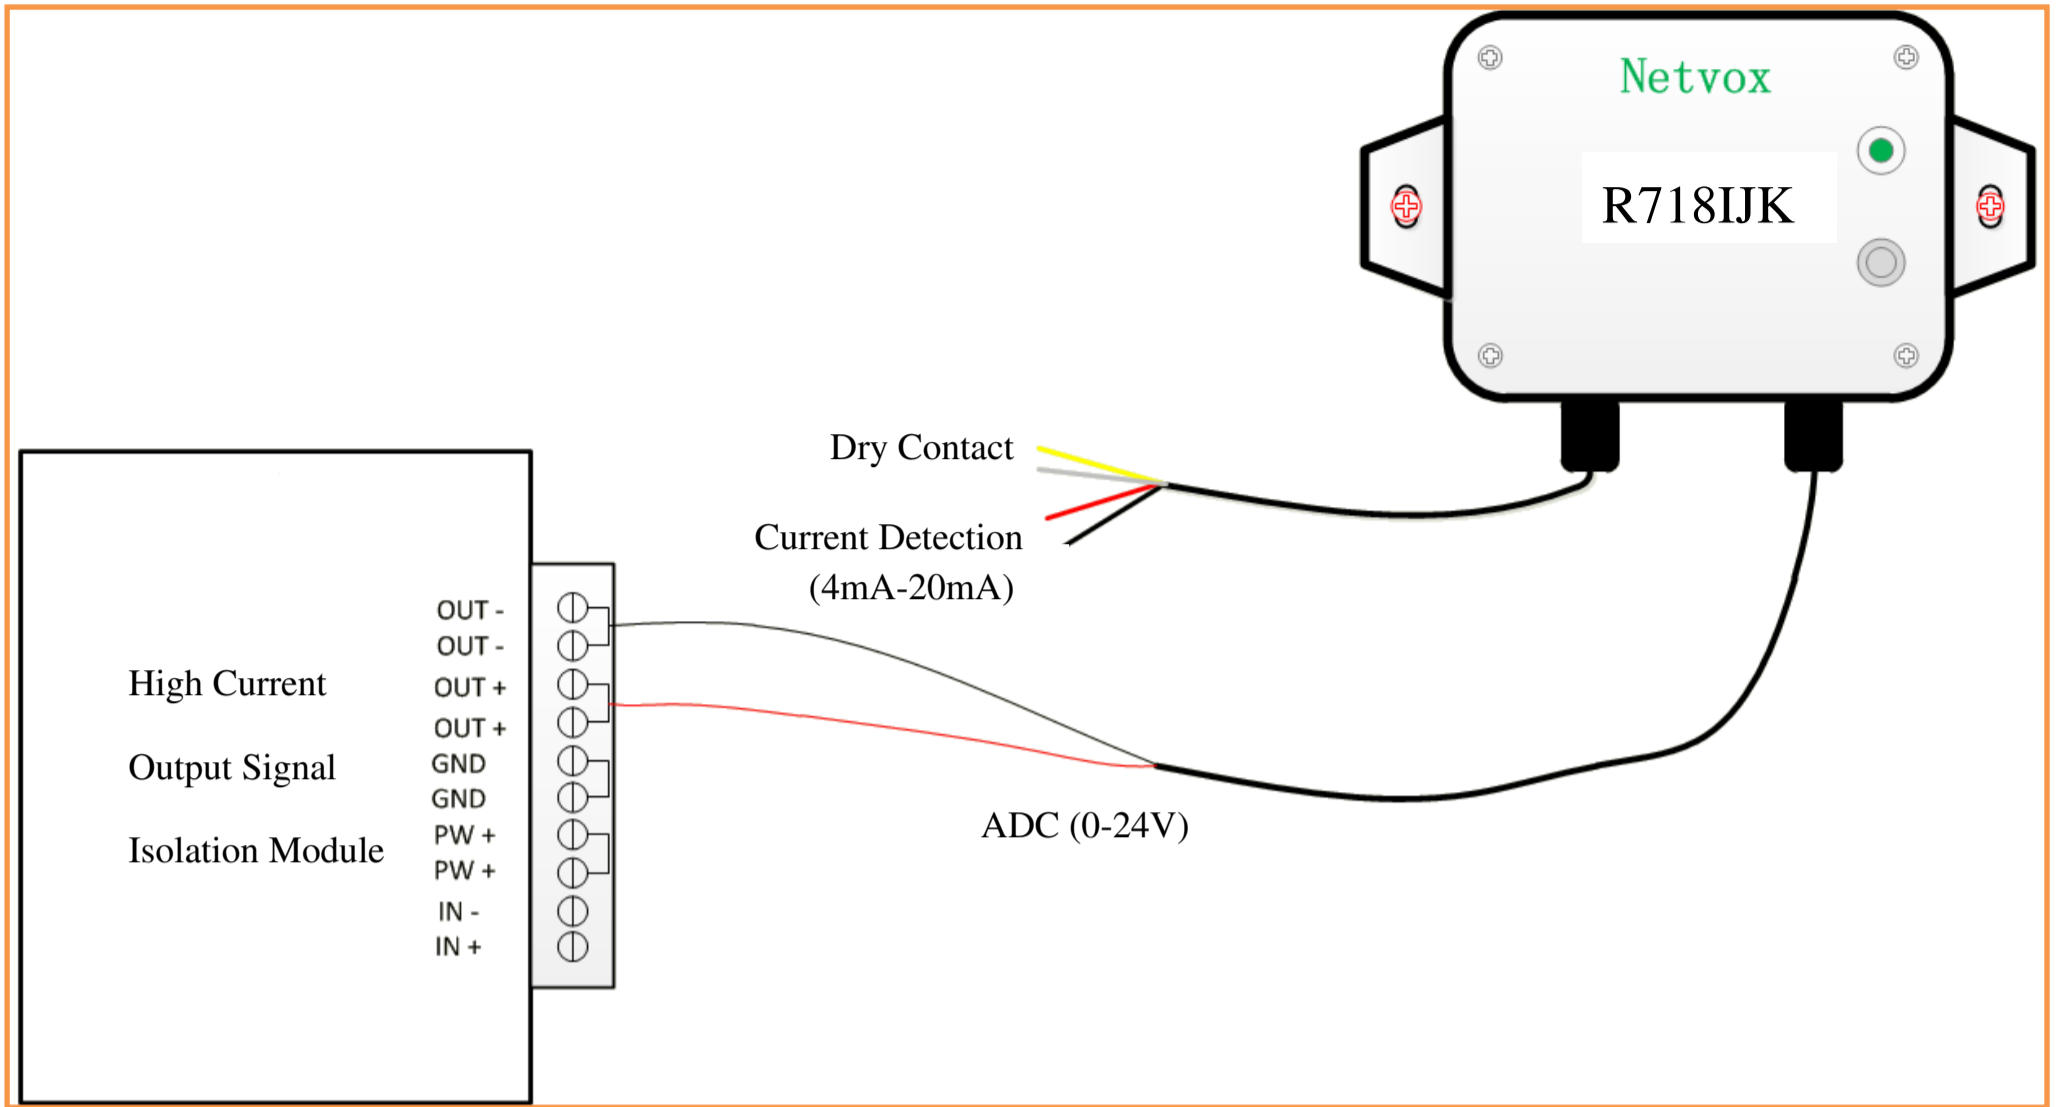
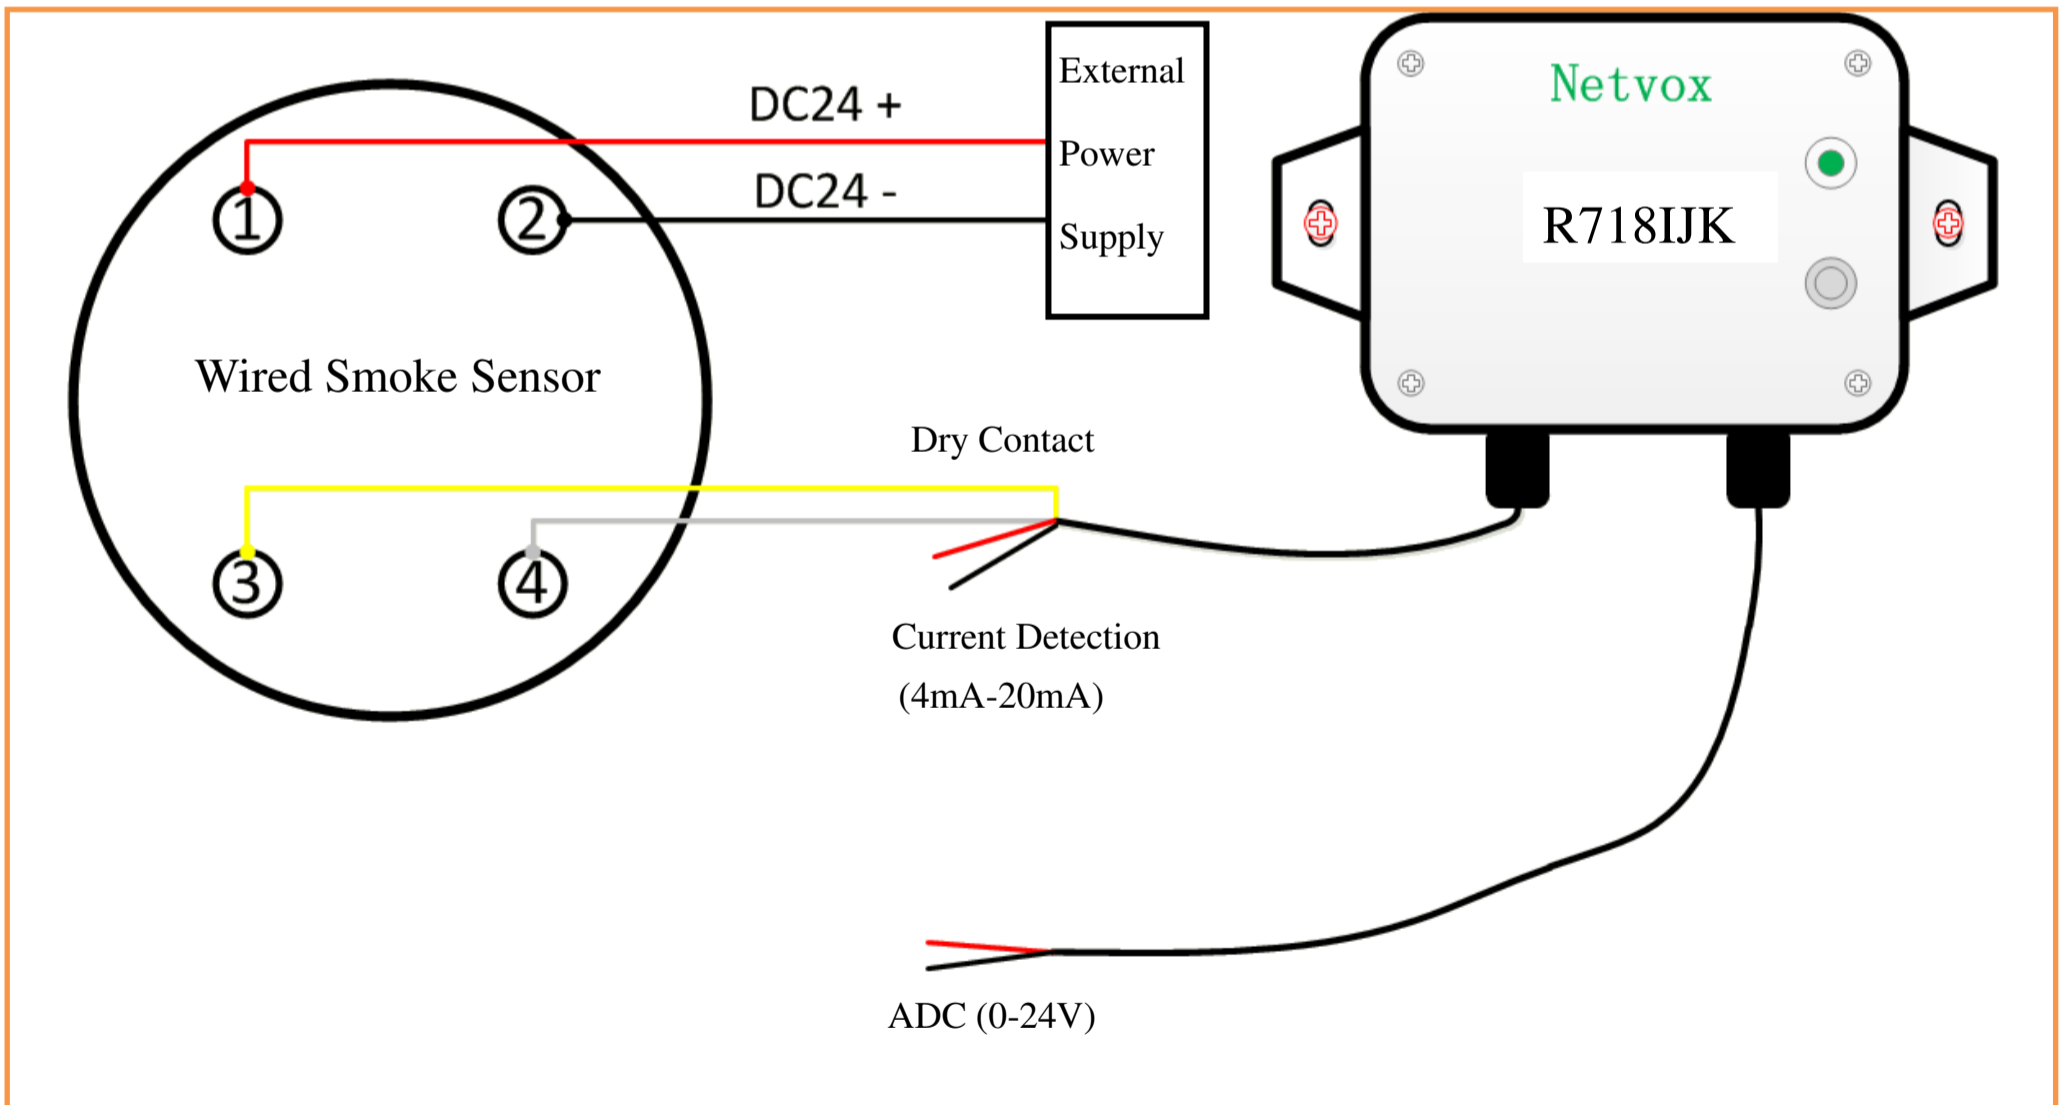
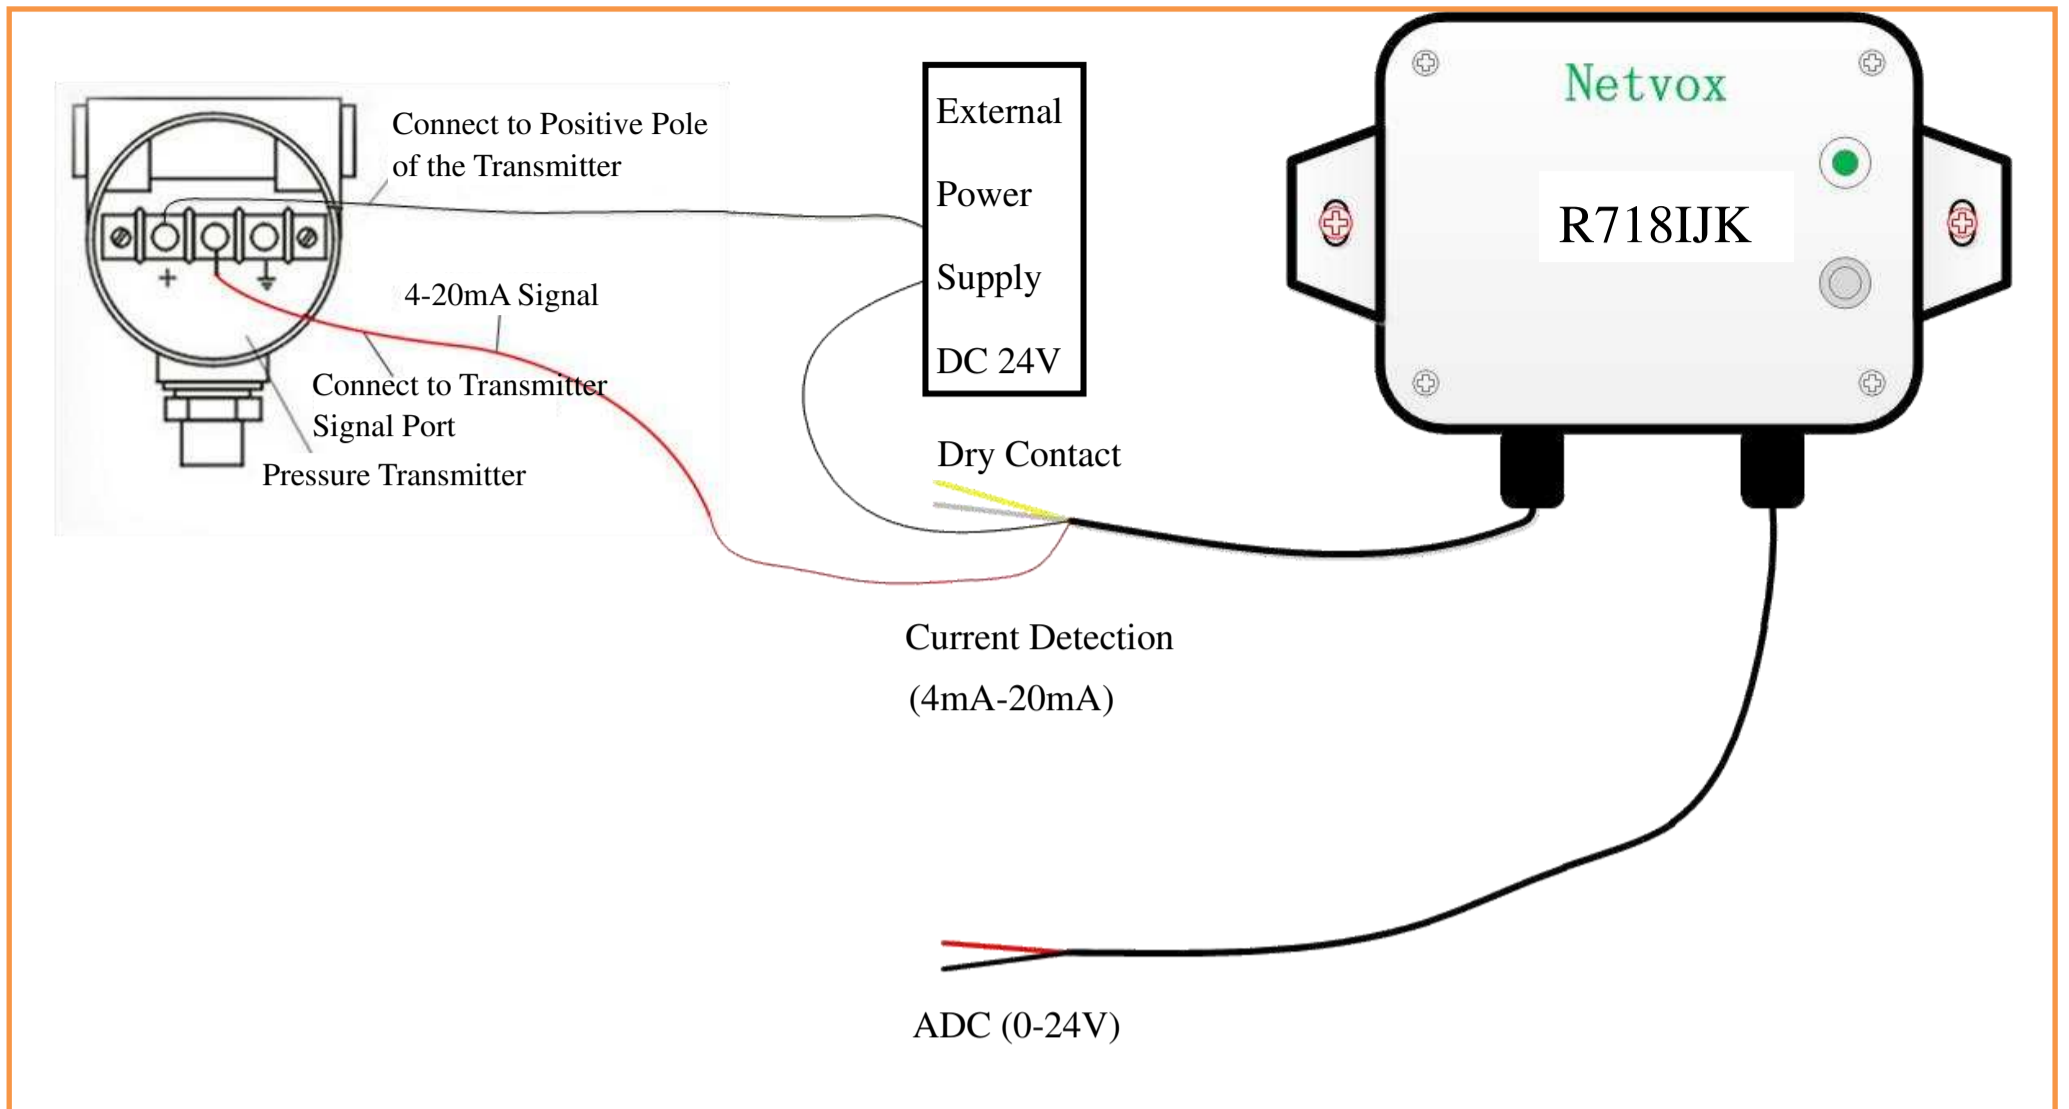
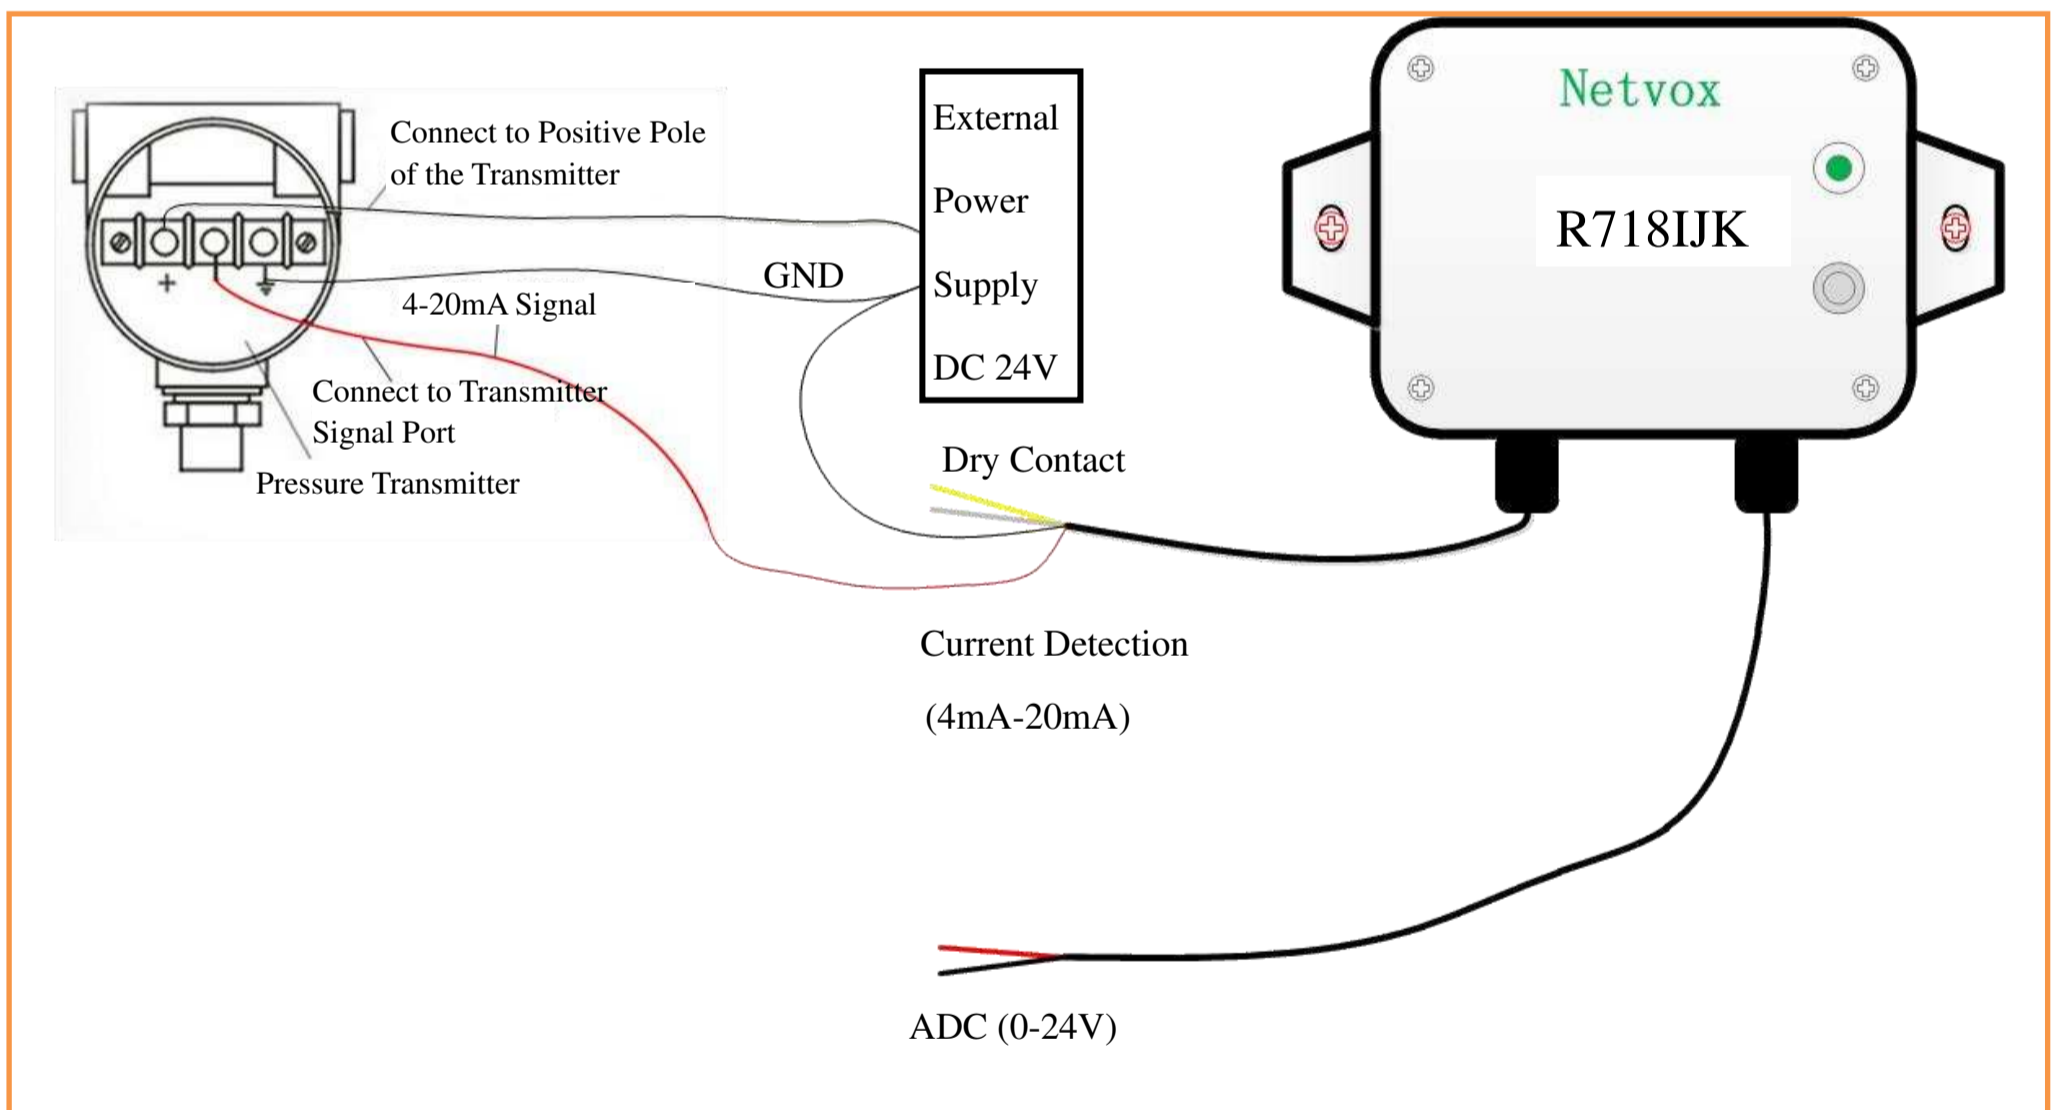

Fig. 1. ADC (0-24V) Detection Wiring Diagram
Fig. 2. Dry Contact Wiring Diagram
Fig. 3. Current Detection 2-Wire Wiring Diagram
Fig. 4. Current Detection 3-Wire Wiring Diagram
1. The ADC sampling line, dry contact sampling, and current sampling line of R718IJK are respectively connected according to the wiring method of Fig. 1, Fig. 2, Fig. 3 and Fig. 4.
- The wiring method of current detection is divided into 2-wire wiring method and 3-wire wiring method. As Fig. 3 and Fig. 4 below.